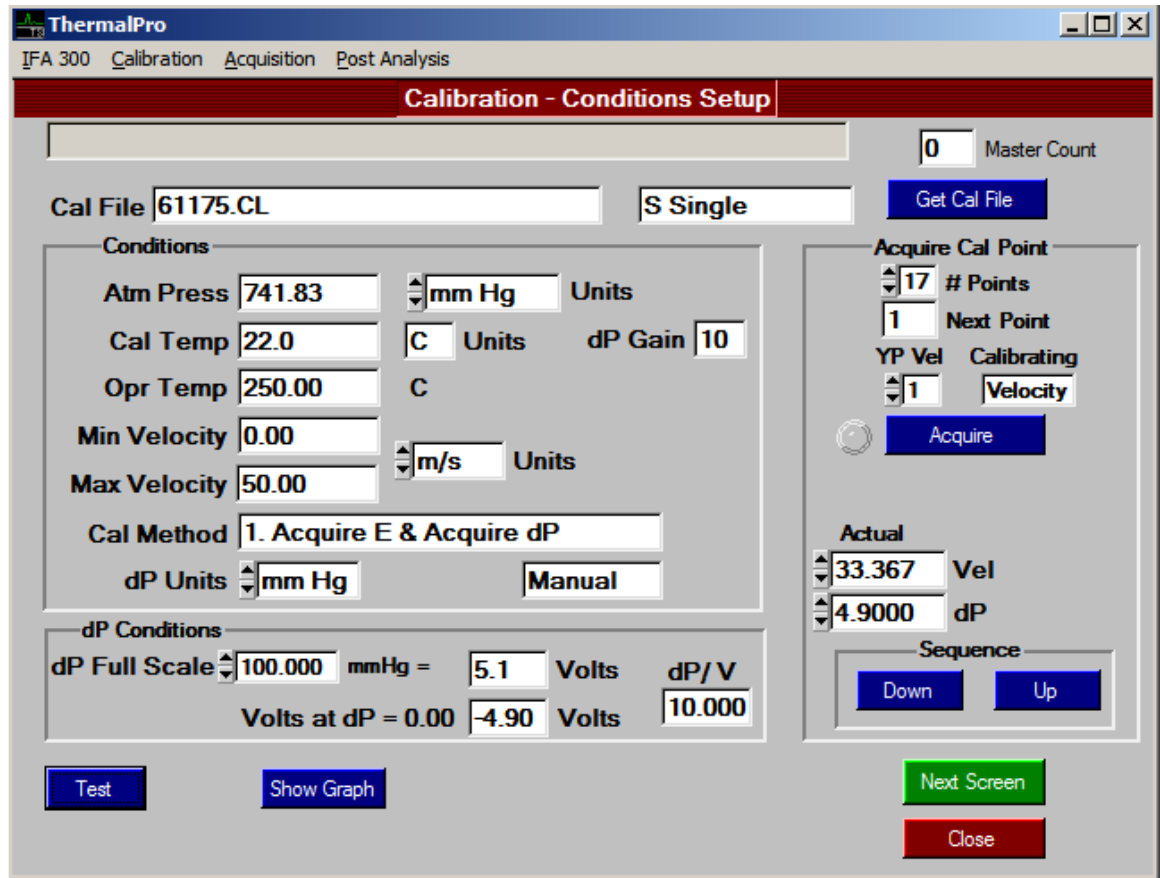

Figure 7-2
7. Click on **Calibrate**. The Conditions Setup screen appears (Figure 7-2).